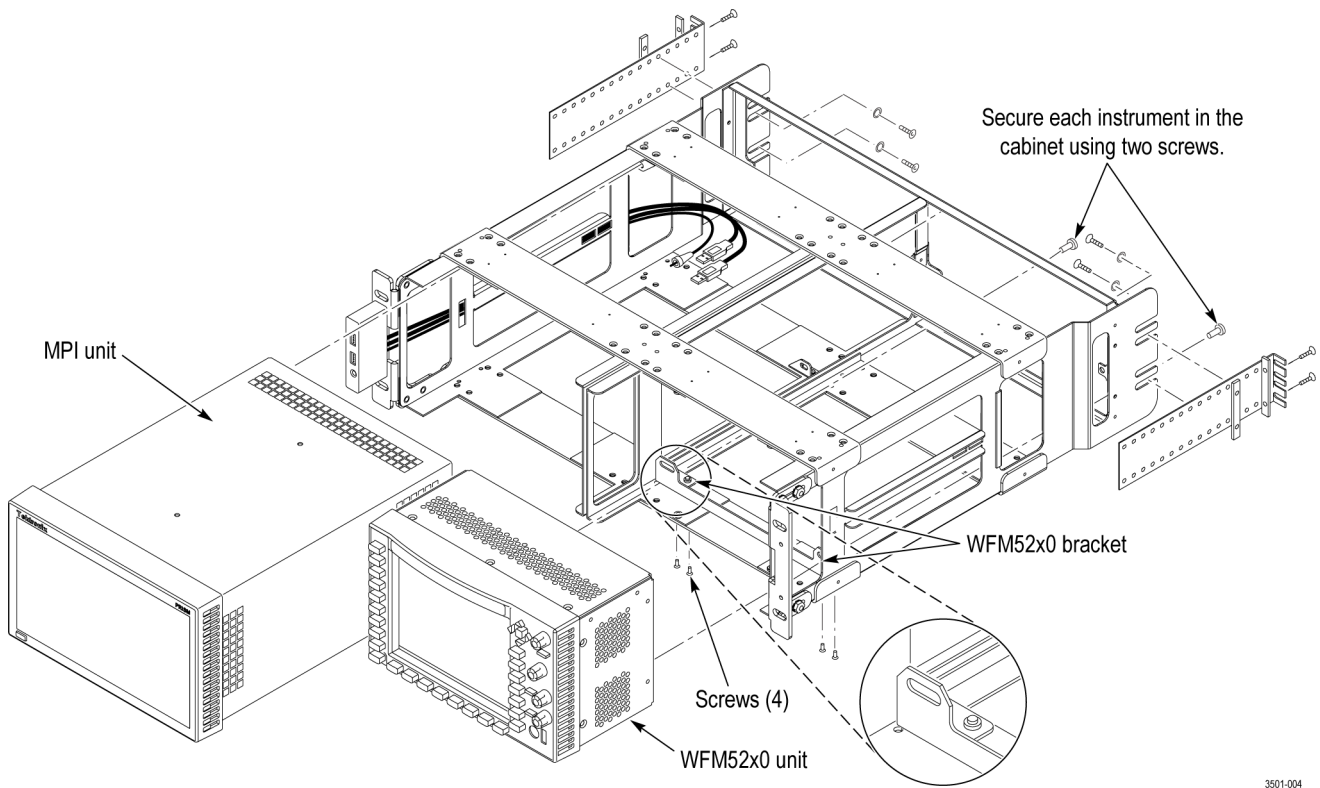
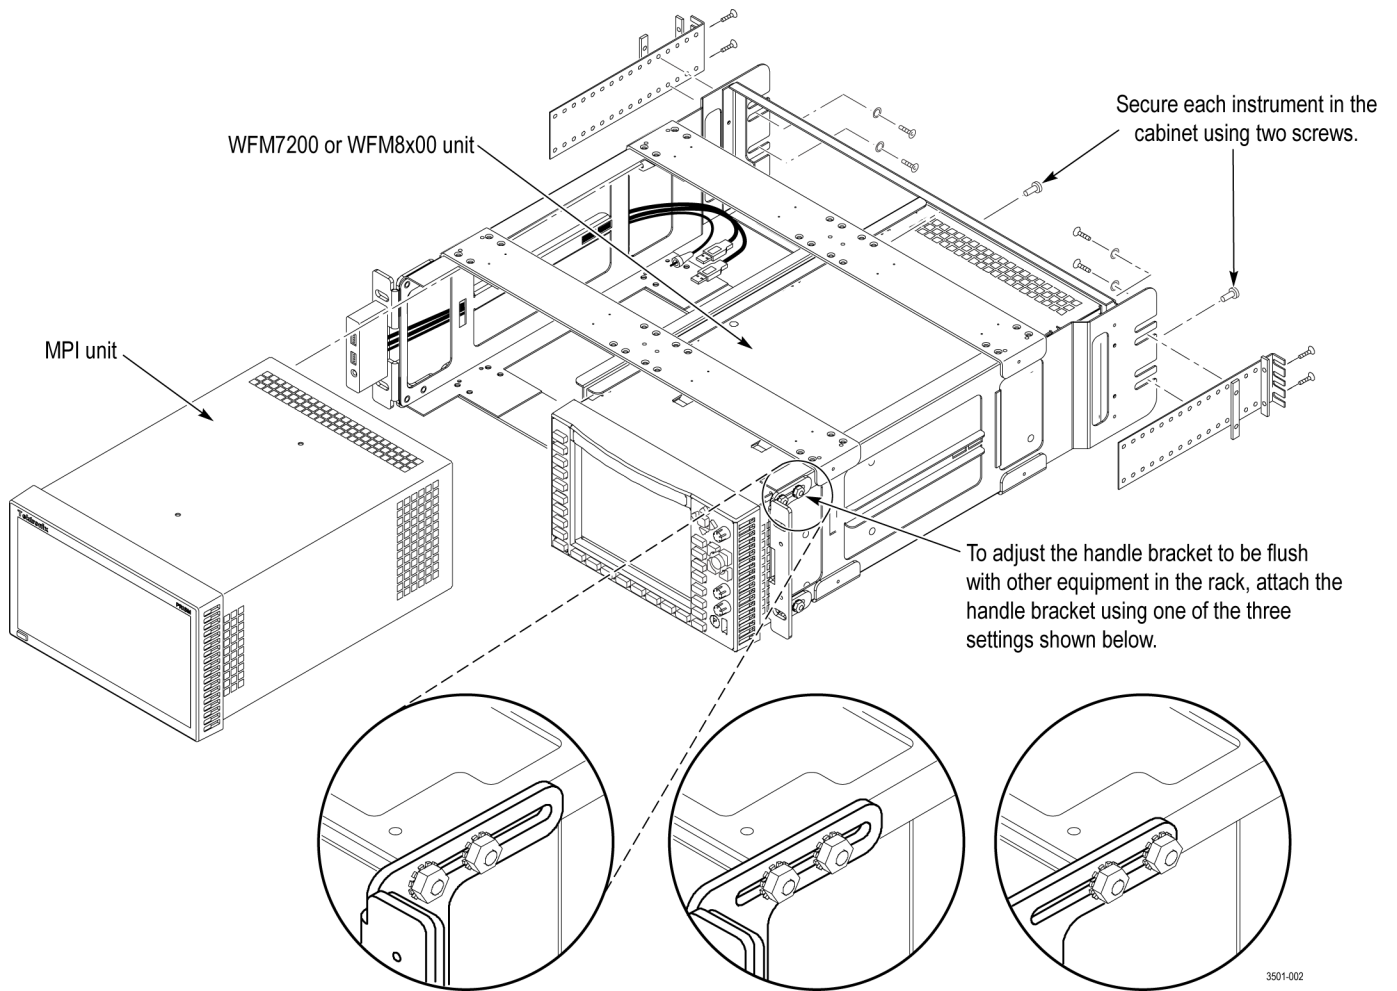
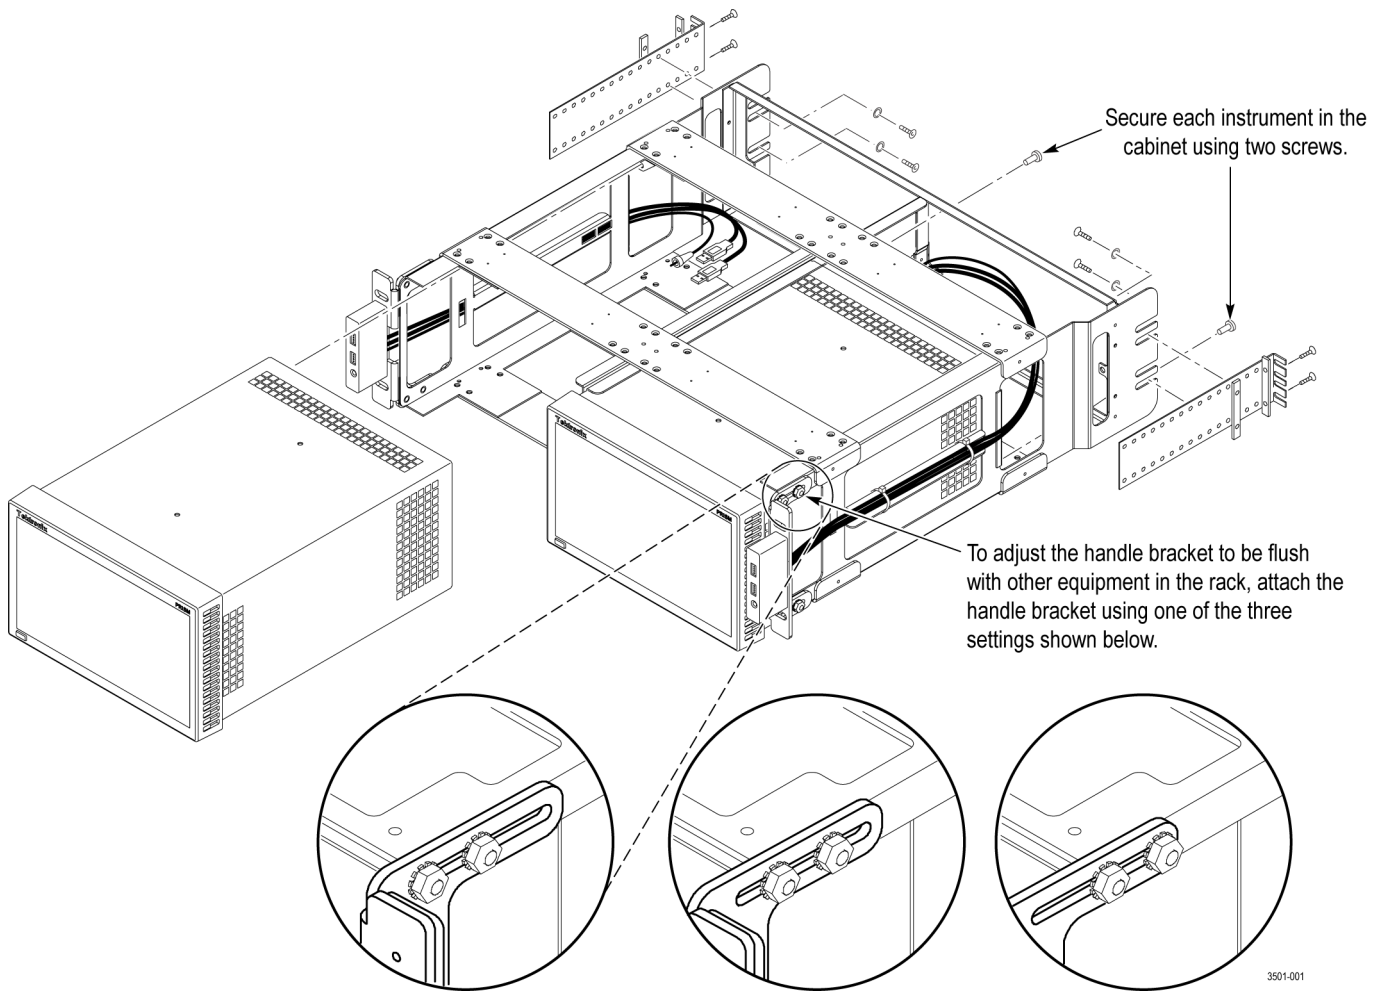

Figure 1: Installing one MPI monitor and one WFM52x0 waveform monitor in the MPI-RACK-MW dual rack cabinet
Figure 2: Installing one MPI monitor and one WFM7200 or WFM8x00 waveform monitor in the MPI-RACK-MW dual rack cabinet
Figure 3: Installing two MPI monitors in the MPI-RACK-MM dual rack cabinet
1. Position the dual rack cabinet so that the headphone jack(s) on the front of the cabinet is on the bottom. (See Figure 1.)
- a. Install the WFM52x0 bracket (item 9 in Table 2) in the right side of the cabinet as shown. (See Figure 1.)
- b. Secure the WFM52x0 bracket to the cabinet using four screws (item 4 in Table 2).
3. If desired, you can adjust the position of the handle brackets to mount the adapter flush with other equipment in the rack. To do this, loosen the nuts that attach the handle brackets to the rack adapter, adjust the position of the handle brackets as desired, and then tighten the nuts securely. (See Figure 2.)
4. Secure the rack adapter assembly to the front frame of the rack using four screws (item 6 in Table 2) and four shoulder washers (item 2 in Table 2).
5. Install one guide bracket (item 8 in Table 2) to one side of the rear frame of the rack using two screws (item 5 in Table 2) and one nut bar (item 7 in Table 2) as shown. (See Figure 1.)
6. Secure the guide bracket to the cabinet using two screws (item 5 in Table 2), two washers (item 1 in Table 2) and one nut bar (item 7 in Table 2). Use the holes in the bracket that will accommodate the depth of the instrument rack frame being used. Leave the screws loose.
1. Install an MPI unit in the dual rack cabinet: (See Figure 1.) (See Figure 2.) (See Figure 3.)
- a. Install a Tektronix WFM52x0, WFM7200, or WFM8x00 waveform monitor in the right slot of the dual rack cabinet. (See Figure 1.) (See Figure 2.)
- b. Use two screws (item 3 in Table 2) to secure the waveform monitor in the dual rack cabinet. The screws attach to the right and left holes in the middle of the instrument chassis as viewed from the rear.